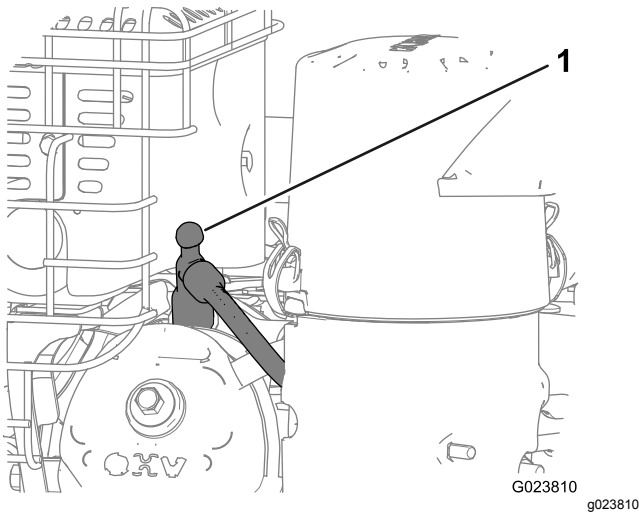

Figure 30
4. Disconnect the spark-plug wire from the spark plug and keep the wire away from the plug, to prevent accidental starting (Figure 30).